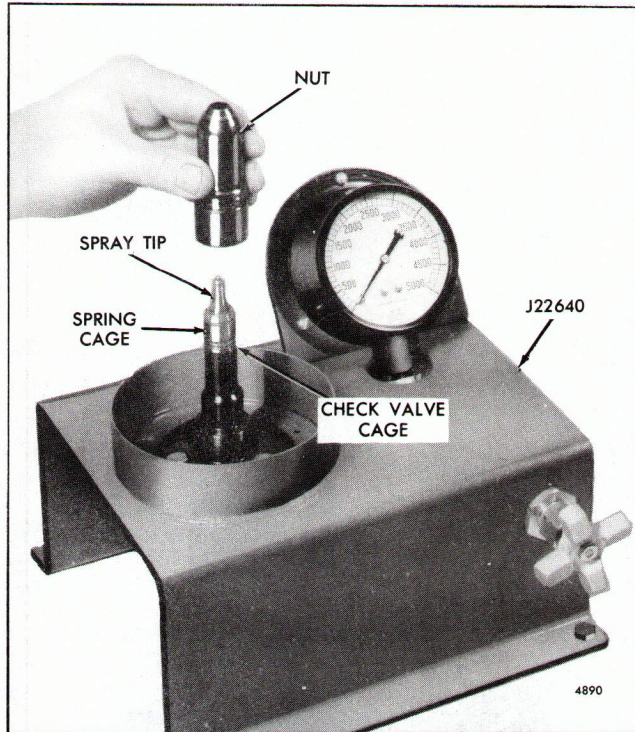

Fig. 18 - Installing Injector Valve Parts on Auxiliary Tester J 22640
- Assemble cleaned injector parts, including the check valve cage, spring, spring seat, spring cage and spray tip assembly, on the auxiliary tester J 22640 (Fig. 18).